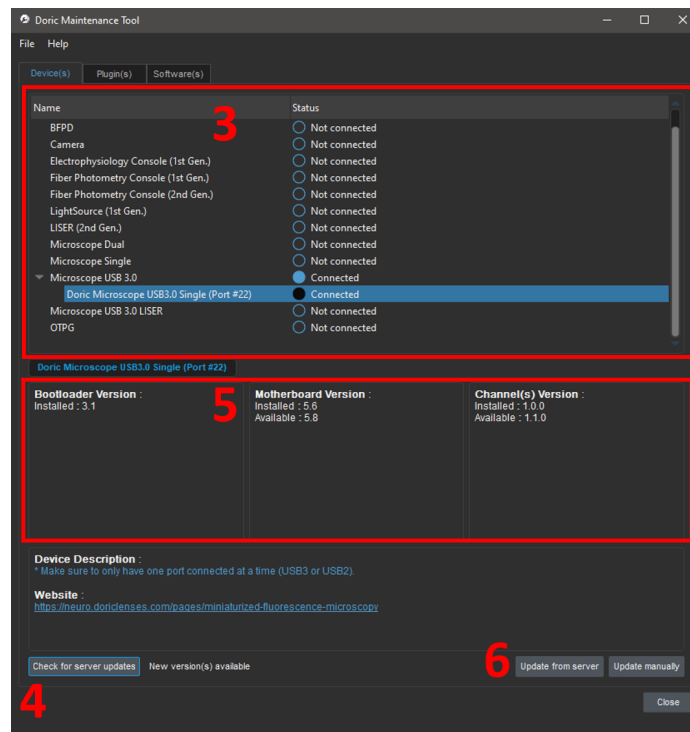

Figure 2.14: Doric Maintenance Tool home page
3. In the list, under **Name**, select the device to update (its status needs to be **Connected**) (Fig. 2.14).
4. Select **Check for server updates**. **Doric Maintenance Tool** will connect to the server and verify if an update is available (Fig. 2.14).
5. Under **Motherboard Version** and **Channel(s) Version**, the present version and the available versions are displayed (Fig. 2.14).
6. Select **Update from the server** to launch the update. (In some cases, an update can be necessary without using the server version. In this case, a representative of Doric Lenses will send you the update file and you can use **Update manually** in replacement of **Update from server**) (Fig. 2.14).